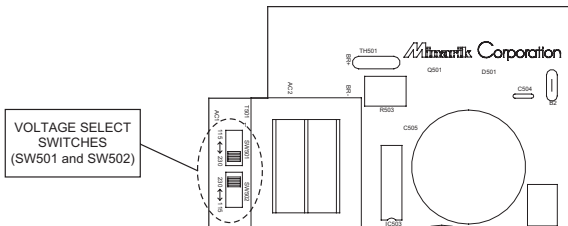

Figure 8. Voltage Switch Location
2. Set both voltage selection switches (SW501 and SW502) to either 115 or 230 VAC to match the AC line voltage being used. (see Figure 8 below).